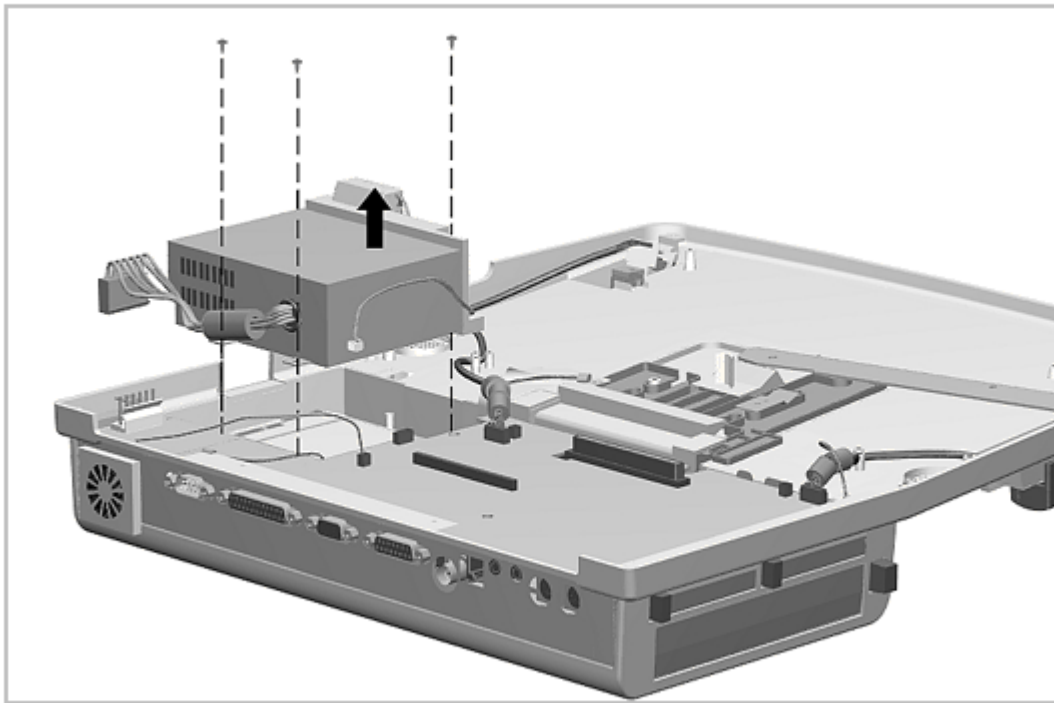

Figure 7-16. Removing the Power Supply Screws and Power Supply
5. Note the routing of the ground wires attached to the rear power supply screws. Remove the three screws and lift the power supply out (Figure 7-16).